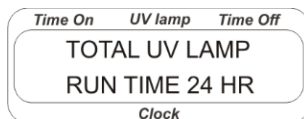

Figure 6. Lamp runtime
5.2.6 Press the **Set** key once to display total lamp runtime (fig. 6). Display reverts to timers after some time.